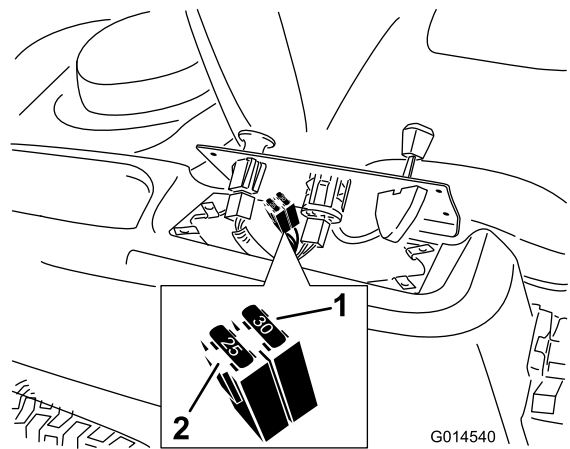

Figure 38
2. Lift the control pane up to access the main wiring harness and fuse block (Figure 38).
3. To replace a fuse, pull out on the fuse to remove it (Figure 38).